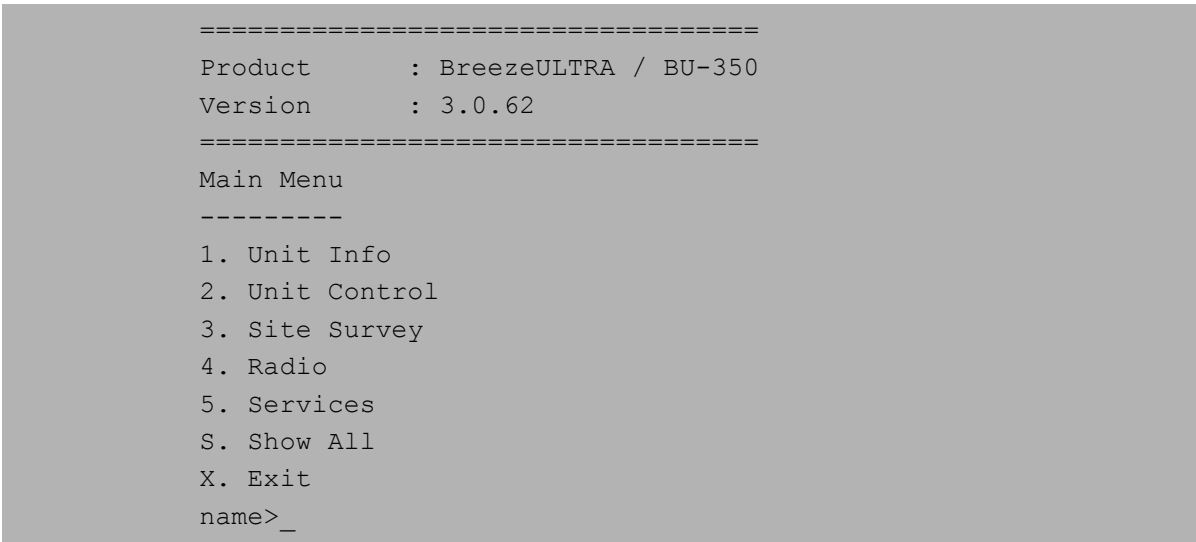

Figure 5-1: Main Menu (Administrator Level)
- 3 Enter your password and press **Enter**. The Main Menu is displayed as shown in Figure 5-1.